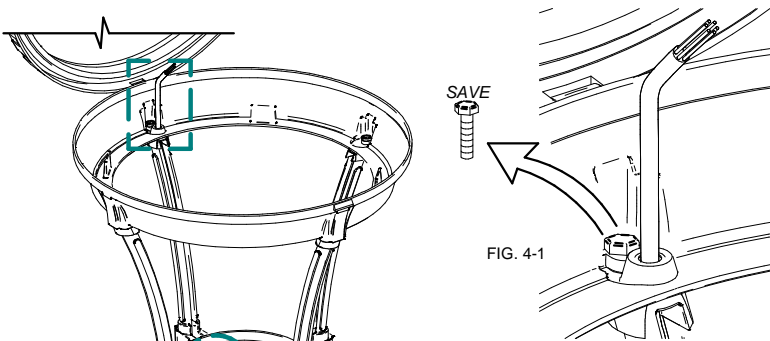

FIG. 4-1
1. Locate the strut that contains the power cable. Remove and **SAVE** the 1/4-20 x 7/8" screw that secures the strut. (FIG. 4-1)